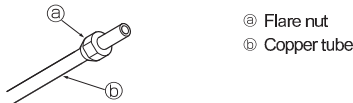

Fig. 5-4
5.2.3. Putting nut on (Fig. 5-4)